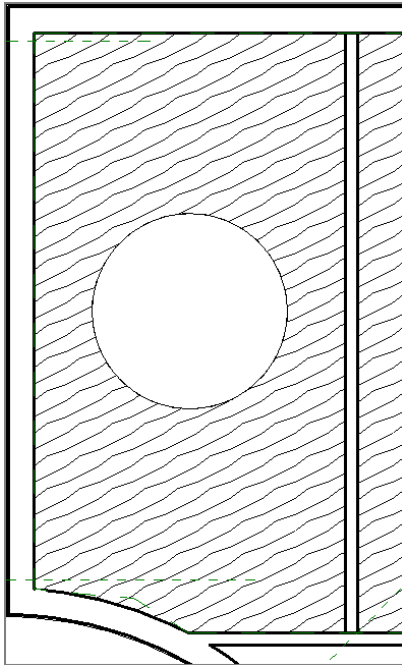

FIGURE 9.23 : There's a hole in my ceiling!
10. Verify that your ceiling looks like Figure 9.23.